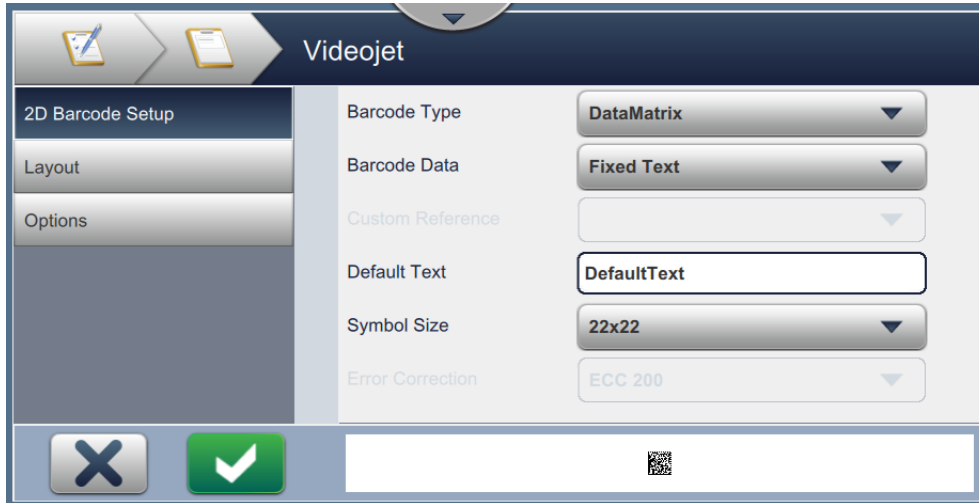

Figure 6-10: 2D Barcode Setup Screen
- The 2D Barcode Setup screen opens as shown in Figure 6-10.